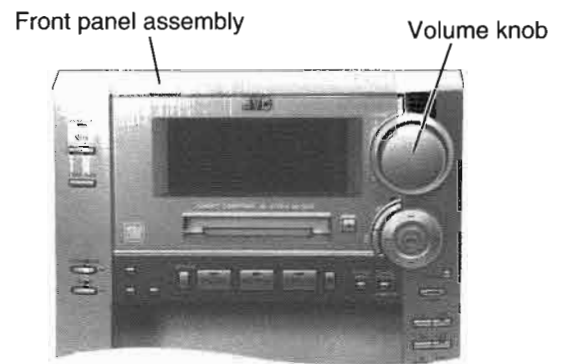

Fig.18
■ Removing each board of the front panel assembly (See Fig.18 to 20)